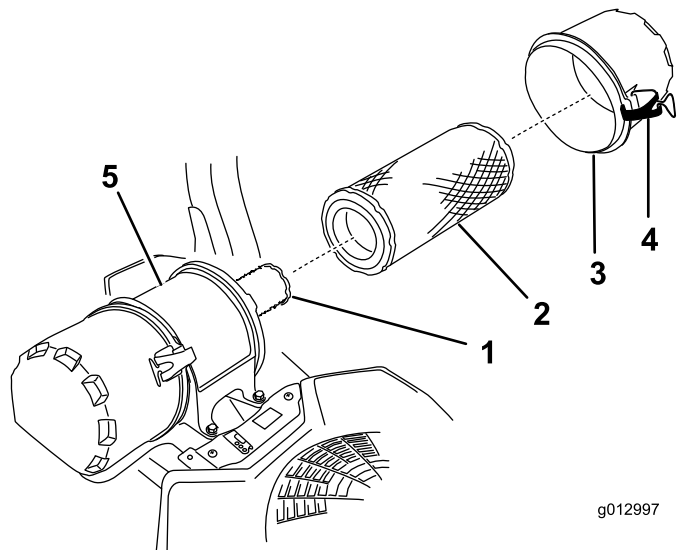

Figure 50
6. Release the latches on the air cleaner and pull the air-cleaner cover off the air-cleaner body (Figure 50).
8. Gently slide the primary filter out of the air-cleaner body (Figure 50).
2. If the inner filter is being replaced, carefully slide it into the filter body (Figure 50).
3. Carefully slide the primary filter over the inner filter (Figure 50).
- 4. Install the air-cleaner cover and secure the latches (Figure 50).